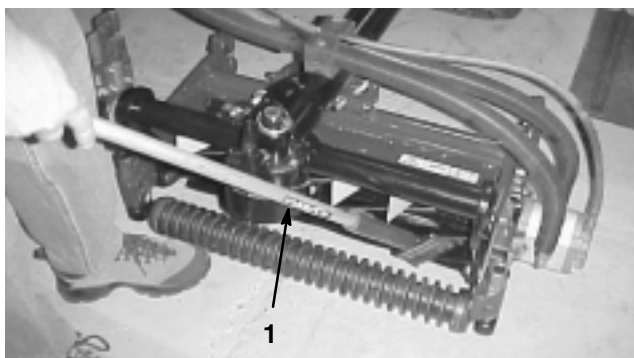

Figure 24
8. Apply lapping compound with a long handle brush (Toro Part No. 29-9100). Never use a short handled brush (Fig. 24).